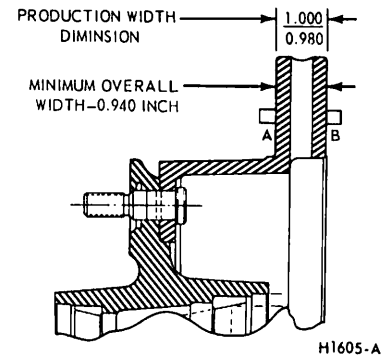

FIG. 2—Disc Brake Rotor Service Limits
5. Clamp a dial indicator to the spindle so that the stylus contacts the rotor at a point approximately 1 inch from the outer edge. Rotate the rotor and take an indicator reading. If the reading exceeds 0.010 inch total lateral runout on the indicator, replace or resurface the disc brake rotor. **The following requirements must be met when resurfacing disc brake rotors (Fig. 2).**